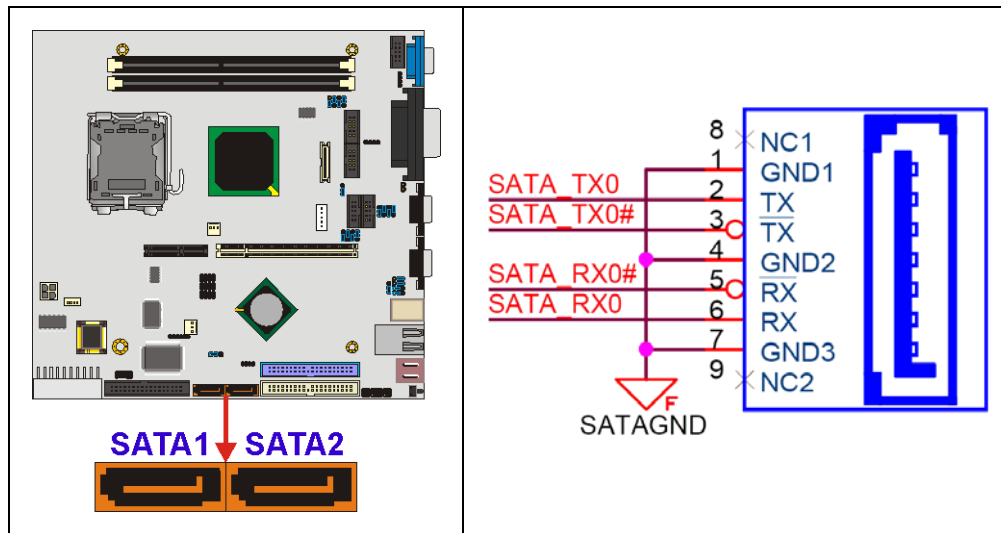

Figure 3-18: SATA Drive Port Locations
- CN Location:** See Figure 3-18